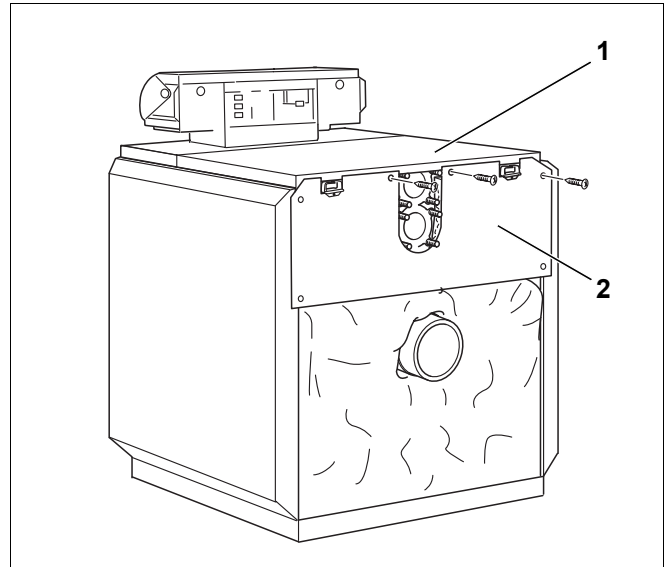

Fig. 39 Installation of the upper boiler back wall
- Secure the rear upper boiler wall (Fig. 39, **Item 2**) on the back of the rear hood (Fig. 39, **Item 1**) and on the side walls.